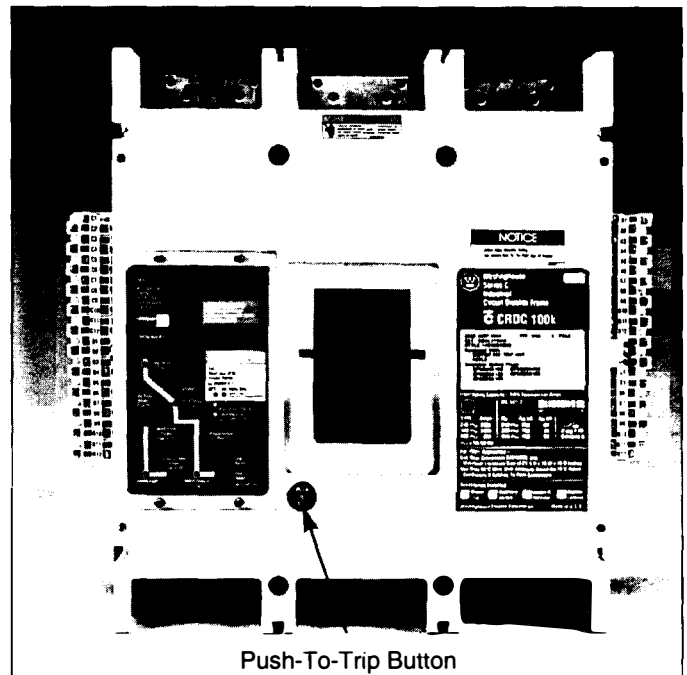

Figure 2-7 OPTIM Trip Unit Mounted in Series C̄ R-Frame Circuit Breaker
- Series C̄ R-Frame (800-2500 amperes) (Figure 2-7)